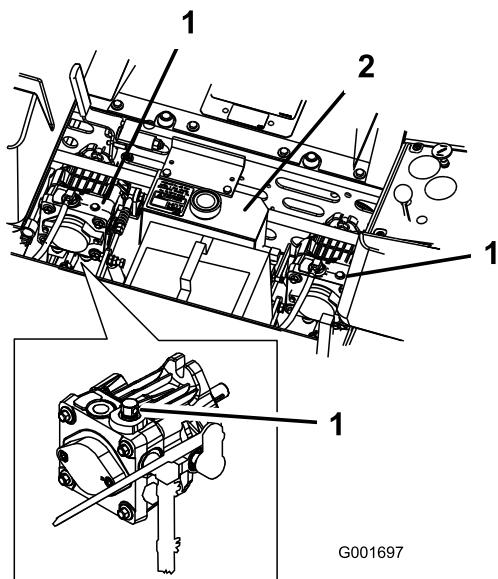

Figure 29
Rotate the by-pass valves clockwise 1 turn to operate machine (Figure 29).
2. Rotate the by-pass valves counterclockwise 1 turn to push. This allows hydraulic fluid to by-pass the pump enabling the wheels to turn (Figure 29).